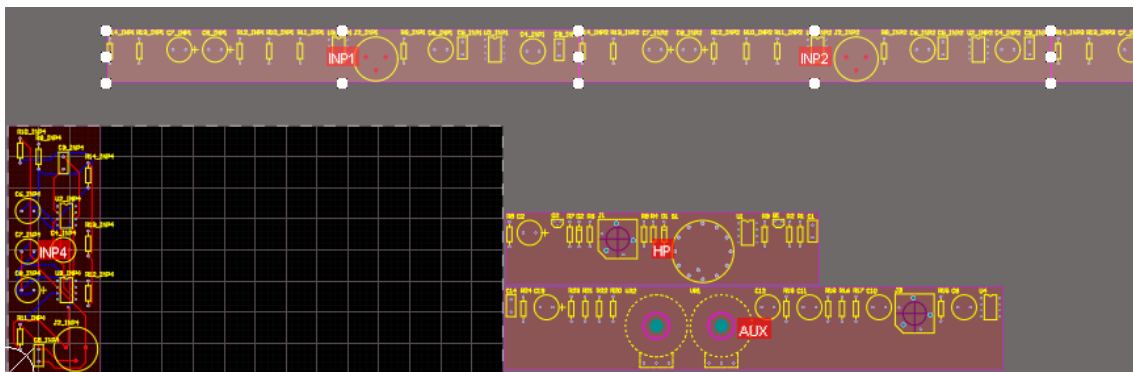

Figure 10. Room arrangement preparation for copy format
d) Left-click above the board. The room arrangement should be similar to Figure 10.